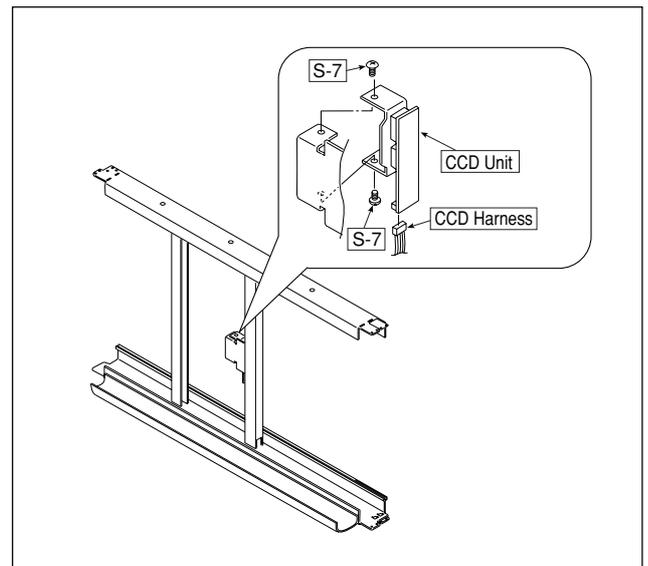

Fig. 12
10) Remove the CCD Unit. (See Figure 12.)
2. Remove the "S-7" screw shown in Figure 12 and then remove the CCD Unit. (Tightening torque: 4.5kgfcm)